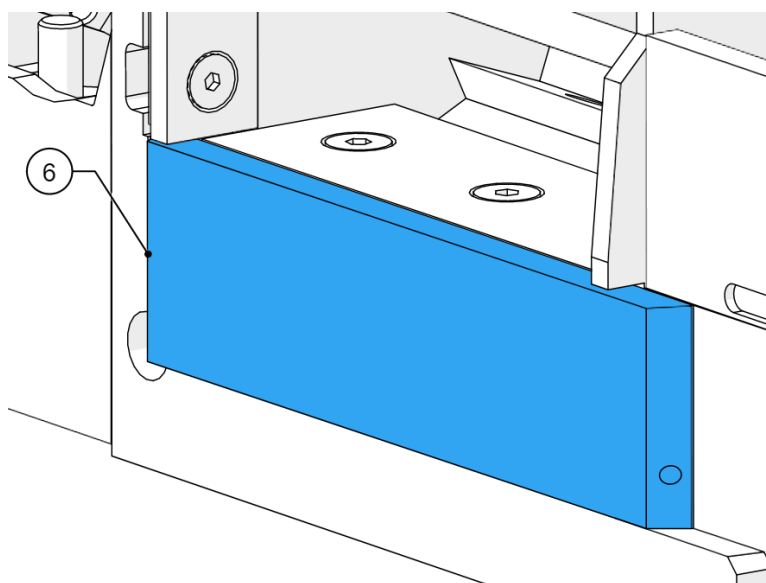

Figure 69 - Anvil in vertical seat
16. Push the anvil into the seat under the side anvil (6, Figure 69).